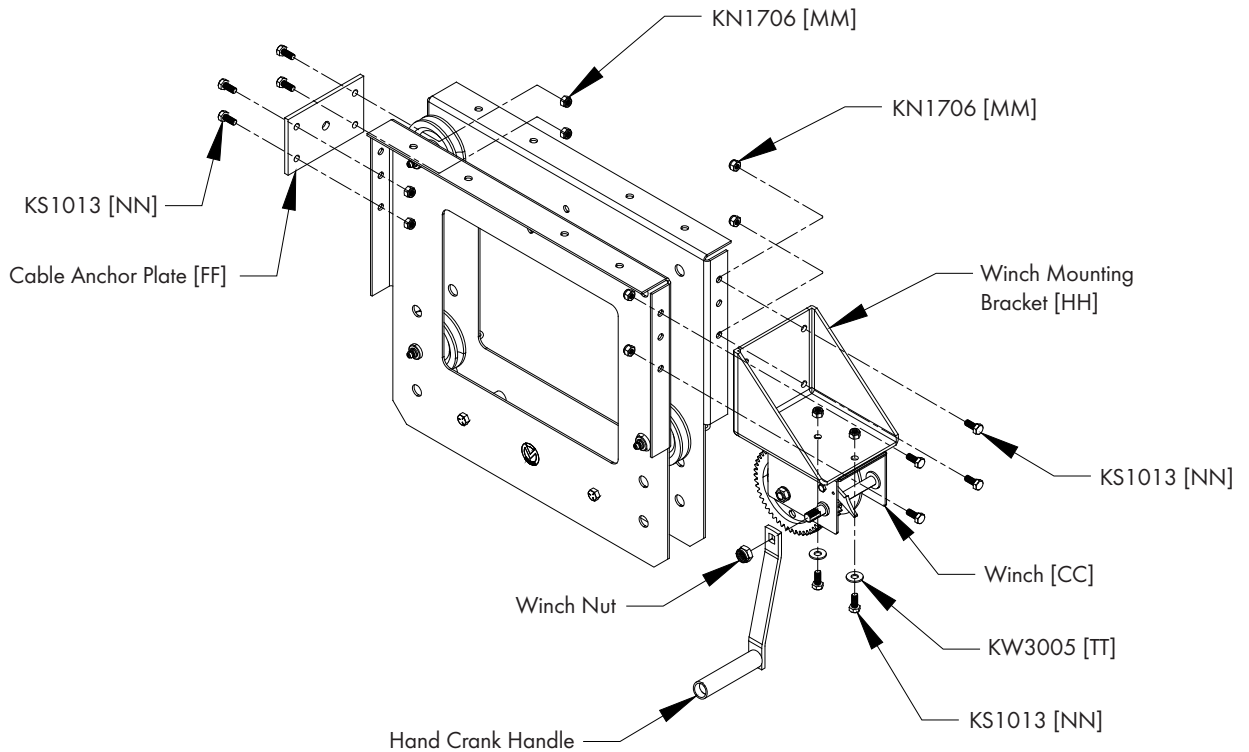

Figure 18
Attach the Cable Anchor Plate [FF] and Winch Mounting Bracket [HH] using (8) KS1013 Bolt [NN] and KN1706 Nylock Nuts [MM]. See Figure 18.
Attach the Winch [CC] to the Winch Bracket using (2) KS1013 Bolts [NN], KW3005 Washer [TT] and KN1706 Nylock Nuts [MM]. Then attach Hand Crank Handle to Winch using Nut provided on Winch Shaft. See Figure 18.